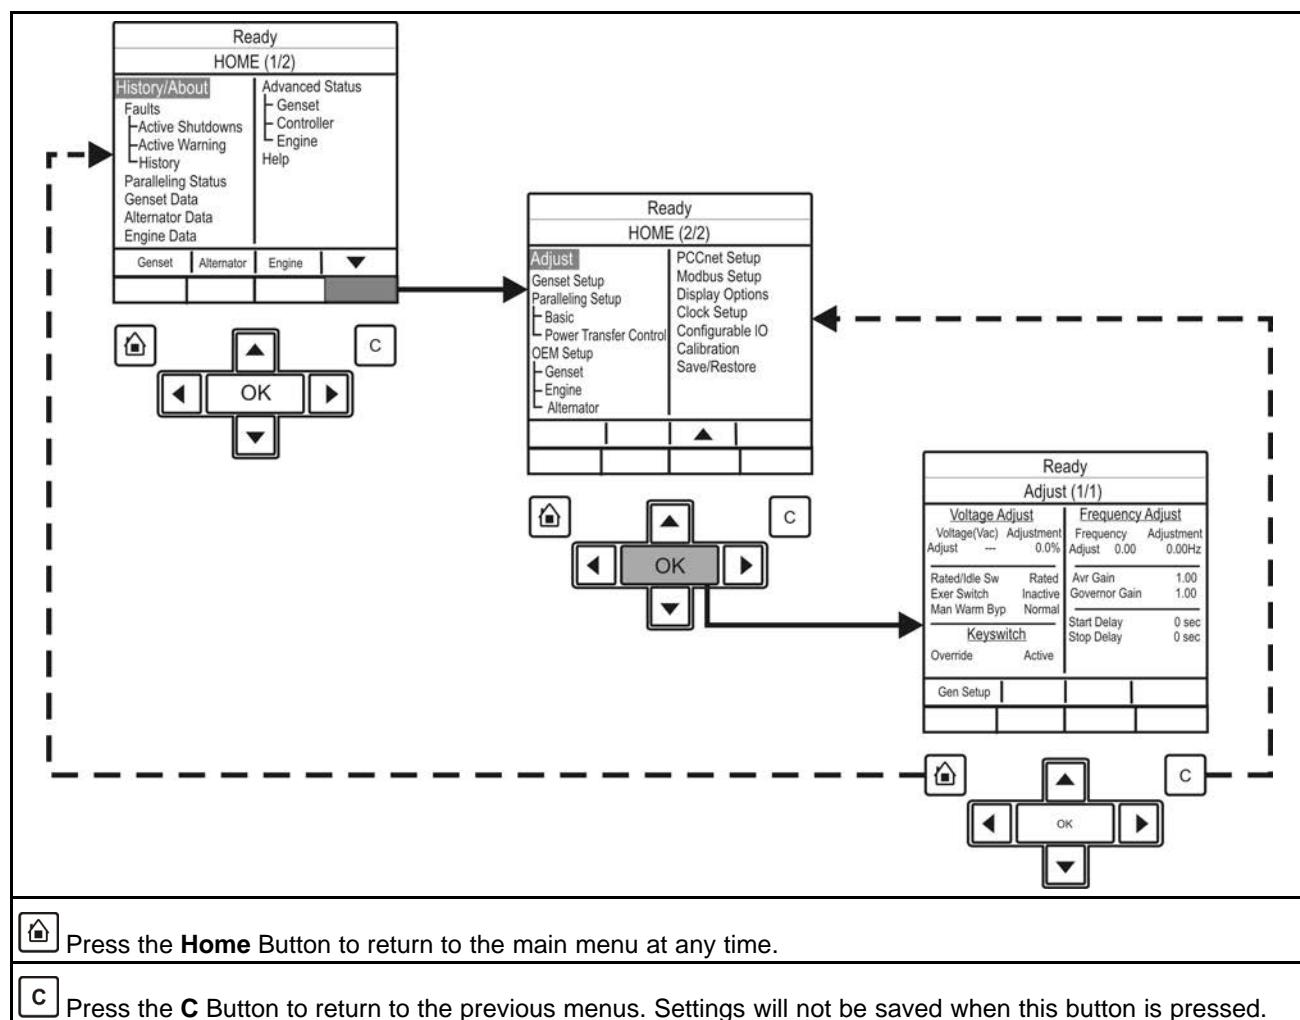

FIGURE 22. ADJUST MENU - TYPICAL DATA
**Figure 22 on page 56** shows a block representation of a typical Adjust menu. To navigate from the Home menu (HOME (1/2)), press the soft-key button below the down arrow in the display window. This will show the second page of the Home menu (HOME (2/2)). With the Adjust line of text highlighted, press the **OK** button to display the information.